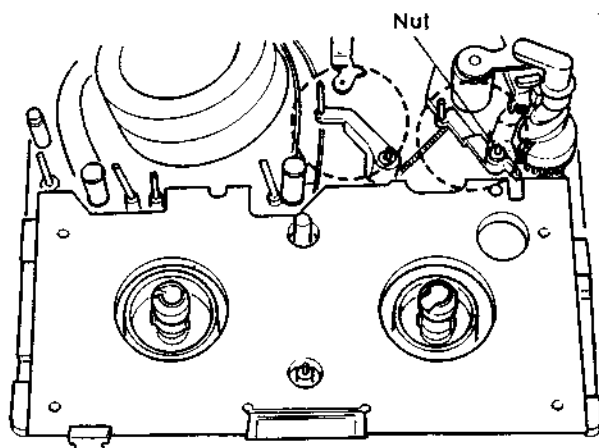

Fig. 2-14
- Turn the capstan motor counter clockwise (loading direction) until the mechanical position becomes as shown in Fig. 2-14.